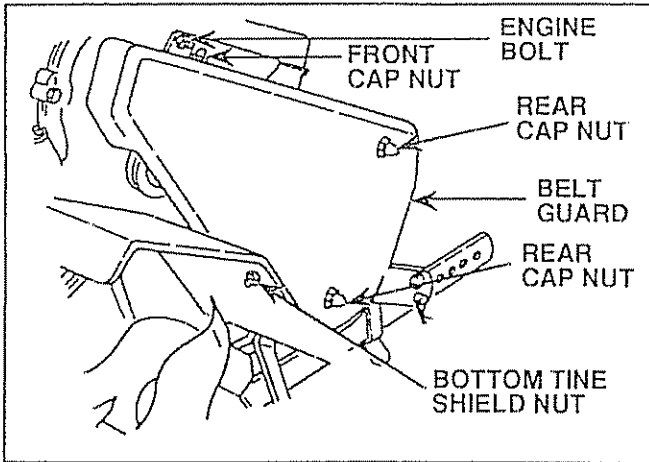

FIGURE 27
- Remove Belt Guard by removing Rear Cap Nuts and Washers. Loosen bottom Tine Shield Nut and Front Cap Nut so that Belt Guard can slide straight out and away from Engine (Fig. 27).